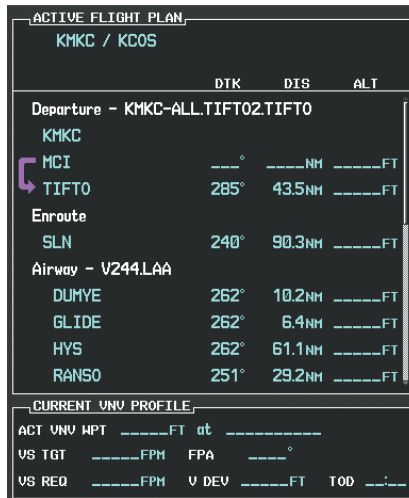

Figure 5-115 Begin Adding V4 to the Flight Plan
- b) The desired entry point for V4 (TOP) must be entered. Turn the large **FMS** Knob to highlight the desired flight plan insertion point (SLN) as shown in Figure 5-115. When the V4 entry point (TOP) is inserted, it is placed immediately above the highlighted waypoint (SLN).